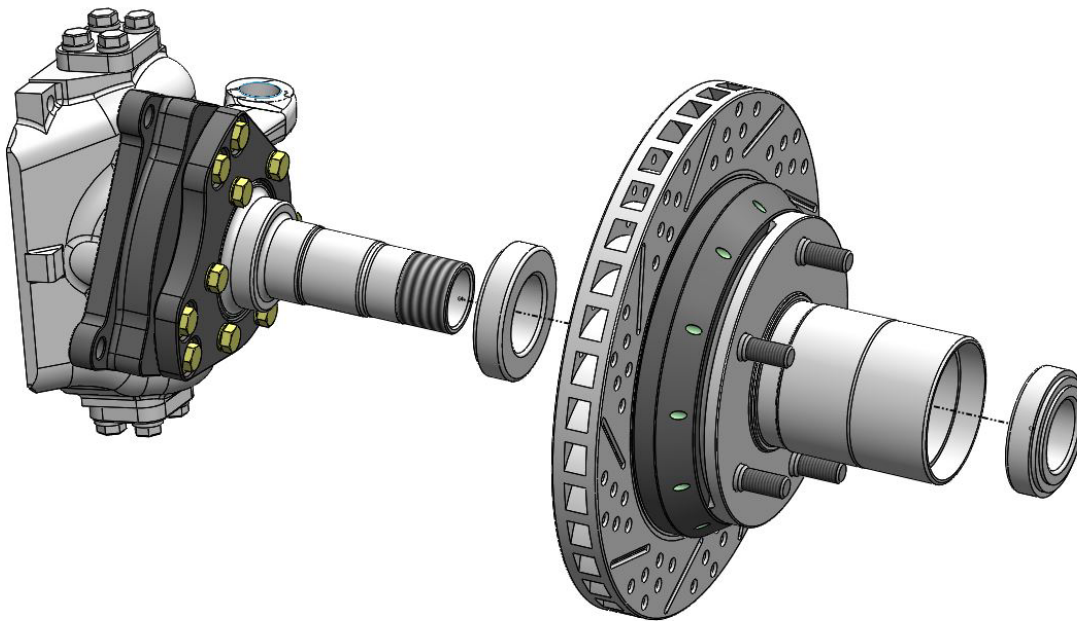
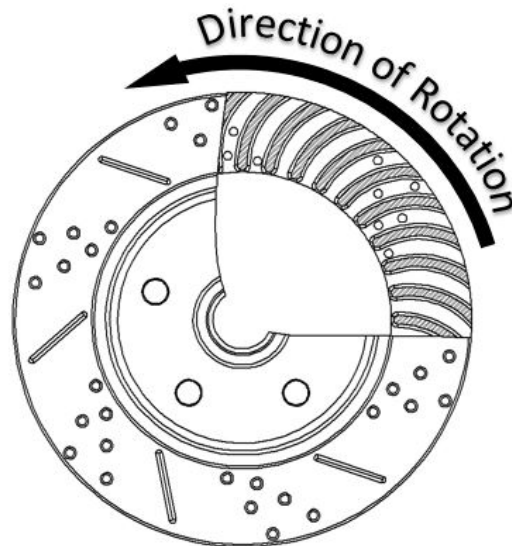

Figure 5a – Installing the Rotor w/Hub Assembly
Figure 5b – Direction of Rotor Rotation
11. Install the OE hub with the new rotor onto the factory knuckle. The installation will not be considered final at this point as the rotor will be removed again to position and properly locate the caliper over the rotor. **NOTE:** Refer to the diagram below in Figure 5a for assembly and Figure 5b for proper rotor orientation.